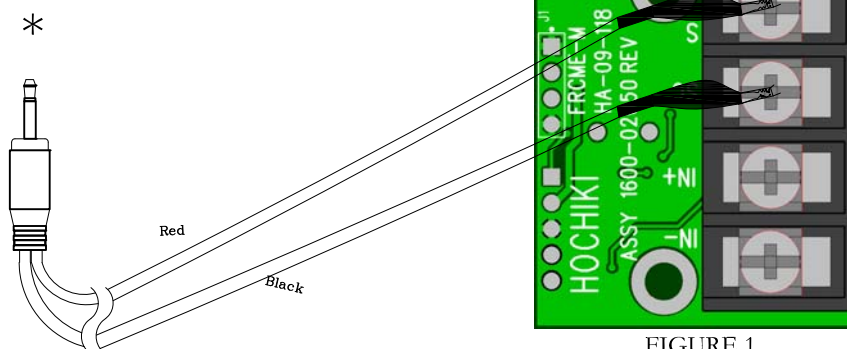

FIGURE 1
To program the FRCME-M, connect the red alligator clip to the S(IN) terminal and the black alligator clip to the SC(IN) terminal (see figure 1). For proper address setting, polarity must be observed.